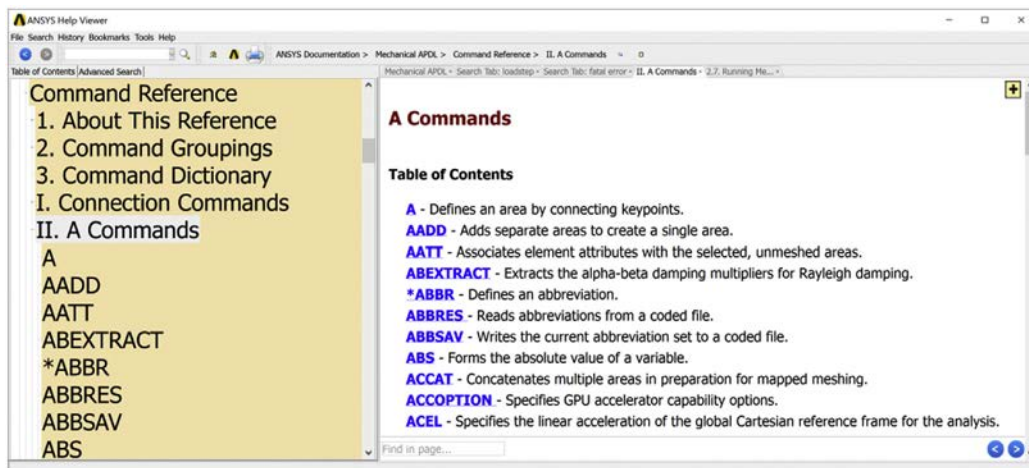

Figure 10-1-3 ANSYS Command Dictionary.
- Mechanical APDL > Command Reference (Figure 10-1-3).